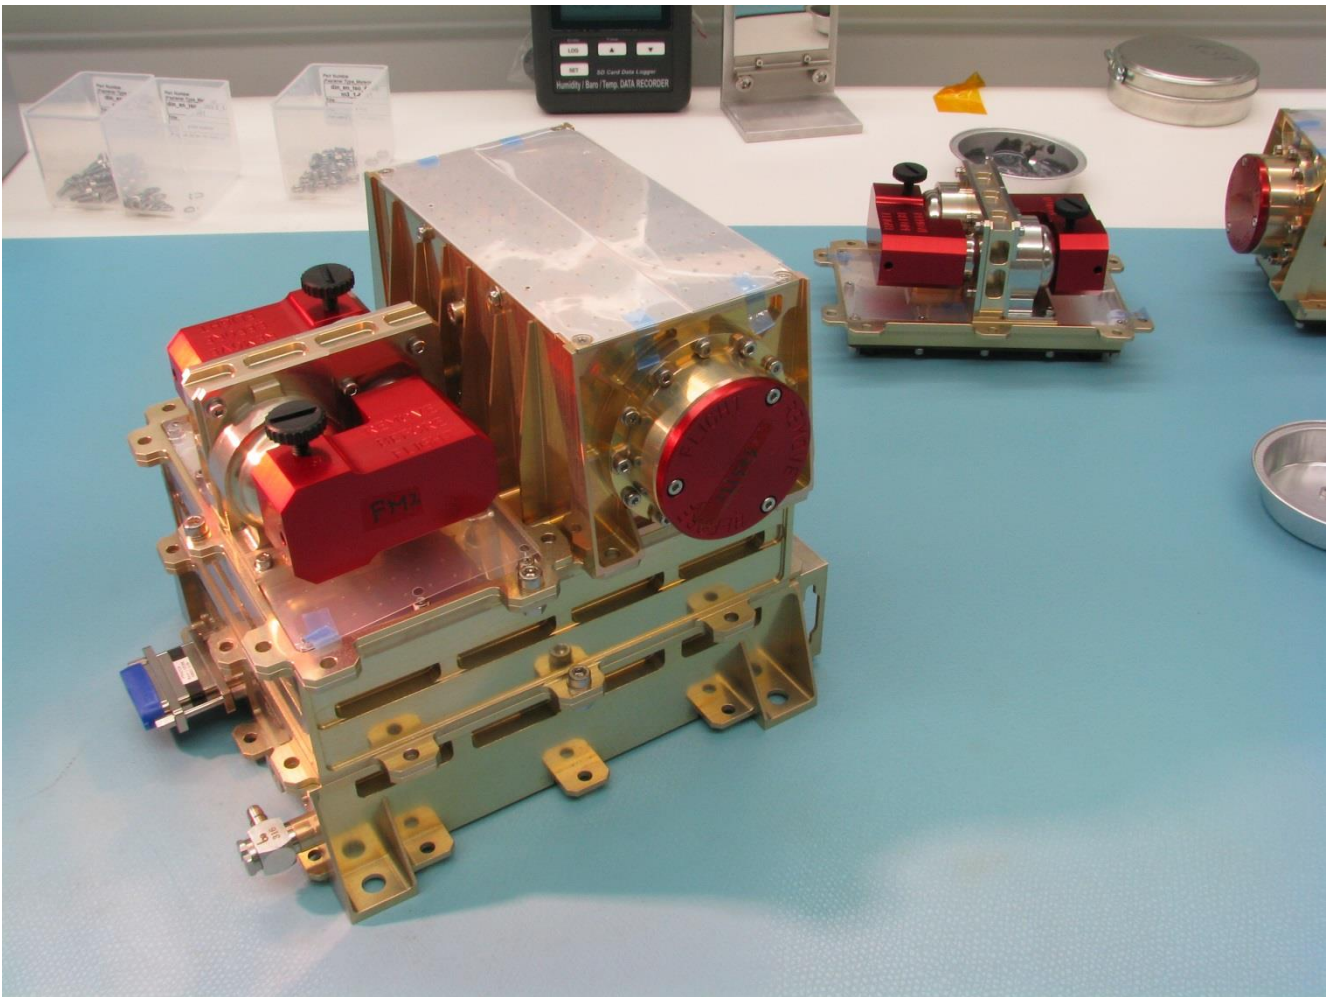

Figure 1: One of the FMs of EPT-HET unit (without bottom plate and MLI and also one can see another FM sensor heads) .
The Flight Model (FM) of EPT-HET is one of the deliverable models to ESA. The FM of the EPT-HET unit consists of a BGO crystal, photodiodes, detectors, magnet system, electronic boards, temperature sensors, and housing parts. All these parts are FM quality parts. A picture of the fully assembled FM unit is shown in Figure 1.